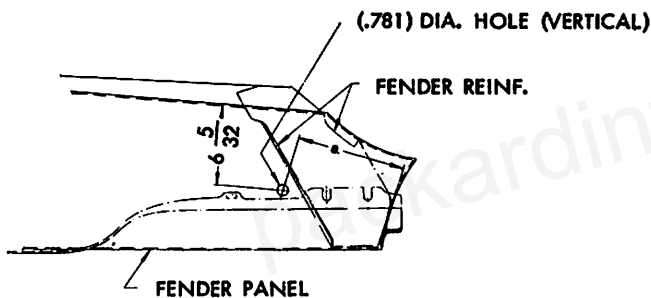

Figure 1
1. Locate and cut out (.781) diameter hole through fender panel as shown in figure 1. (Use template furnished in kit to locate hole.)